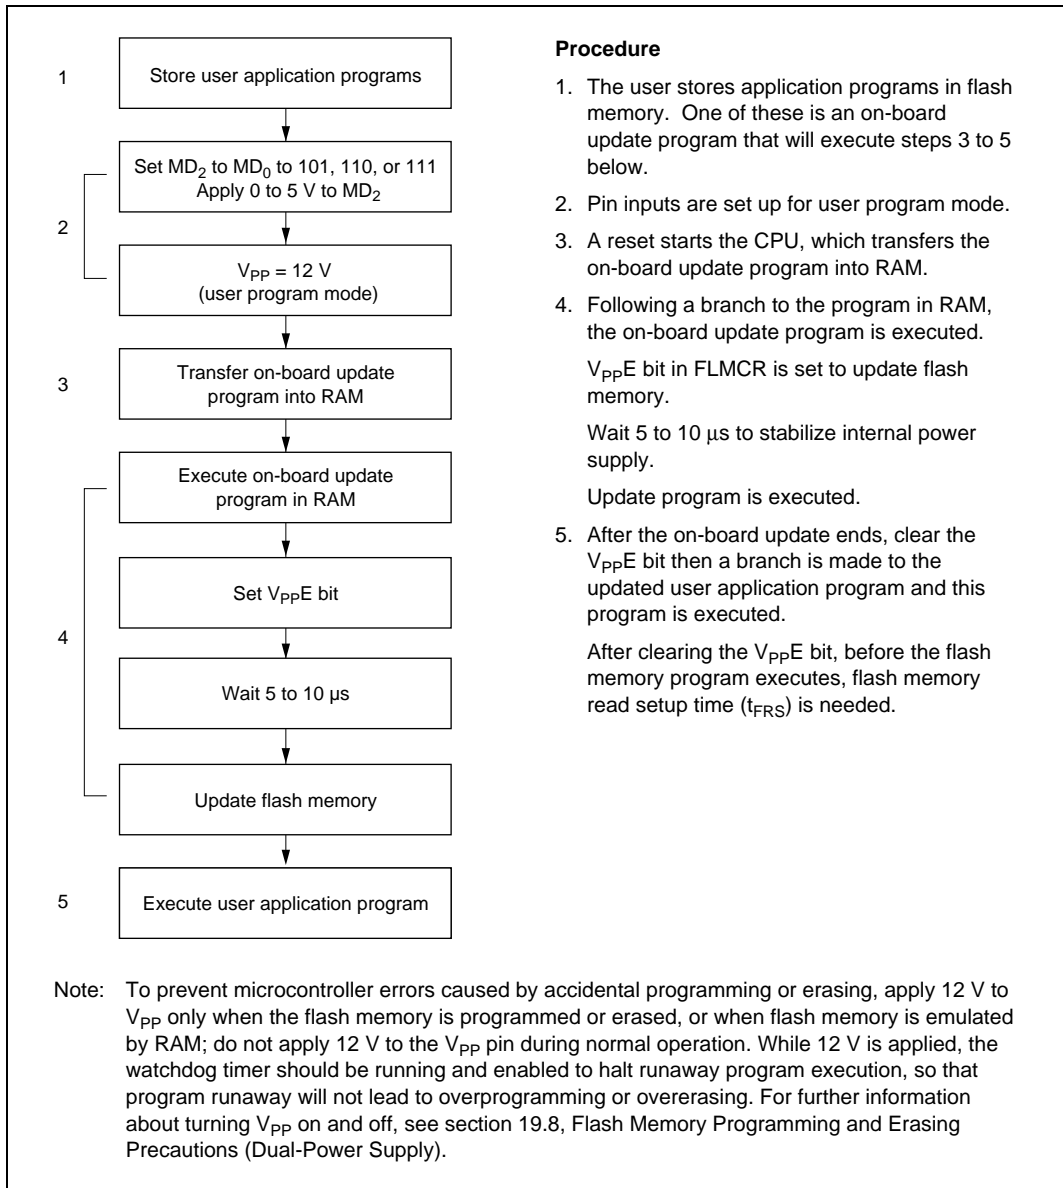

Figure 19.7 User Program Mode Operation (Example)
6. Transition to boot mode are shown in figure 19.7, User Program Mode Operation (Example). This is possible after applying 12 V to pins MD₂ and V_{PP} and restarting. In this case, H8/3048F reset is erased (startup with Low → High) timing*¹, mode pin status latches the personal computer internally to maintain boot mode. Boot mode can be erased if the 12 V applied to the MD₂ pin and the V_{PP} pin is erased, then reset is erased*¹. However, please note the following.
User Program Mode Execution Procedure: Figure 19.7 shows the procedure for user program mode execution in RAM.